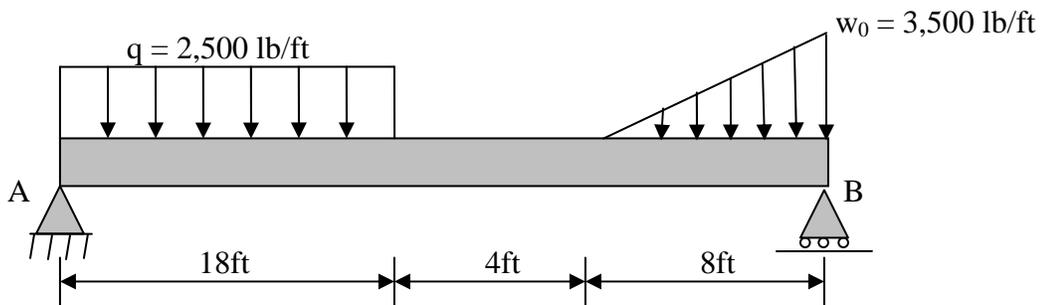

Figure 4: Floor joist beam of new MIT physics building.
4. A U.S. based company was in charge of designing MIT's new physics lab, near the new DMSE headquarters in Bldg 6. They used 30-ft long, wide-flanged structural steel beams for the floor joists to carry the distributed weight of the rooms above. The actual weight distribution is shown in Fig. 4, which is different from what they anticipated, so they want to know where to add an extra support to minimize the shear force and bending moment on this beam. This week, you'll get started on that calculation.